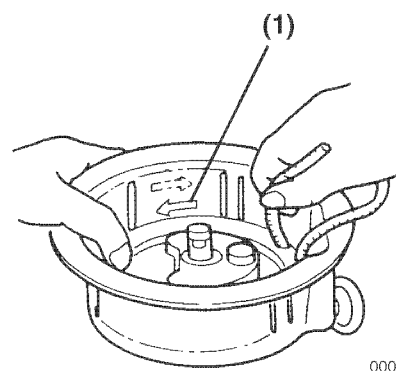

Figure 8-45
10. Wind the reel four turns in the direction shown (Figure 8-45) while holding the rope in the notch of the reel.